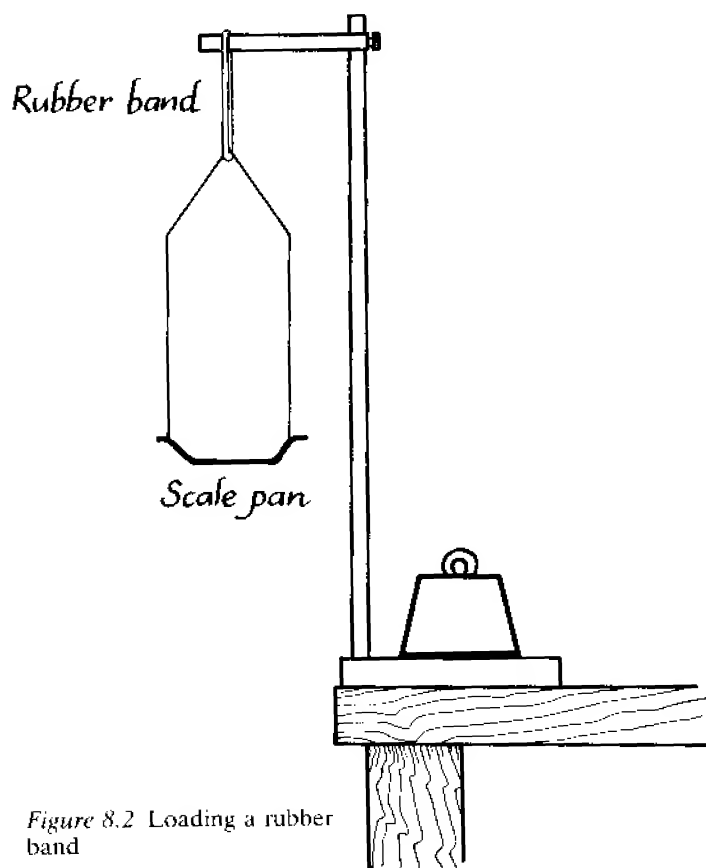

Figure 8.2 Loading a rubber band
2. Hang a rubber band from the clamp and, from the bottom of the rubber band, hang a light-weight scale pan (see Figure 8.2).